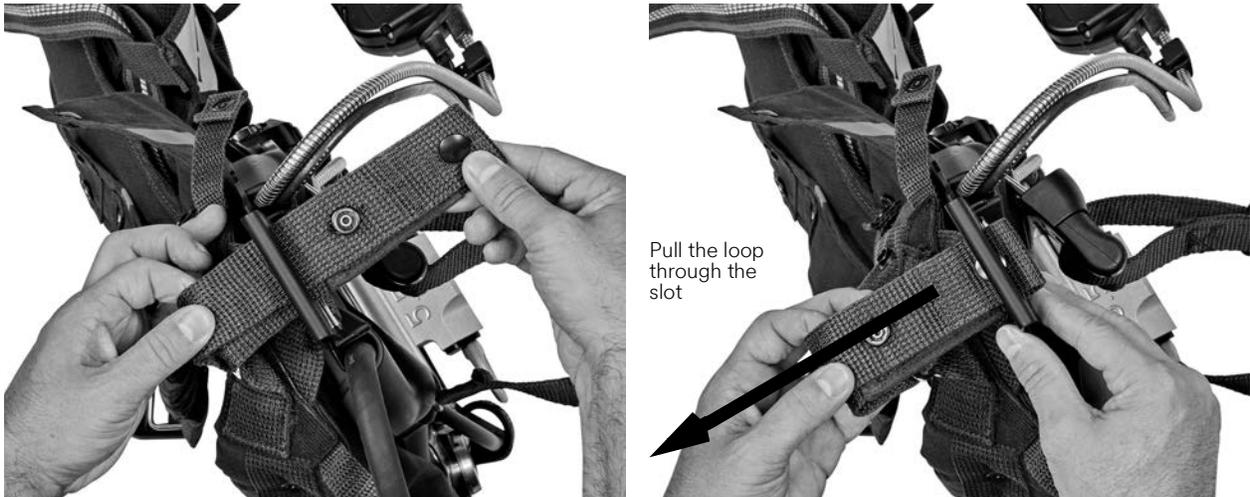

Figure 2-8 Pulling the drag rescue loop through the upper slot of the clevis
- 9 Position the drag rescue loop so that its snaps line up with the center of the upper slot of the clevis. Carefully, pull the loop through the slot, taking care not to damage the snaps. See Figure 2-8.